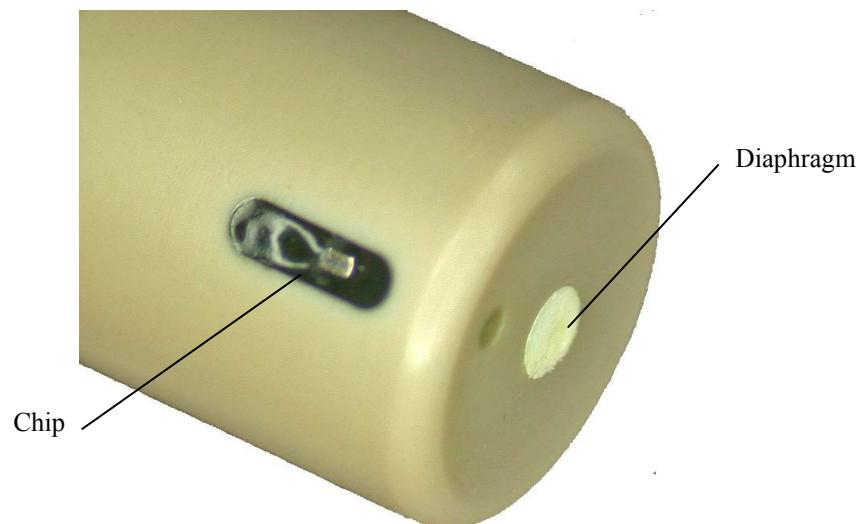

FIGURE 11-1. Tip of the CS526 Probe
1. Place the tip of the probe in soapy water that is 50° to 60°C and soak for about 5 minutes (see Figure 11-1).